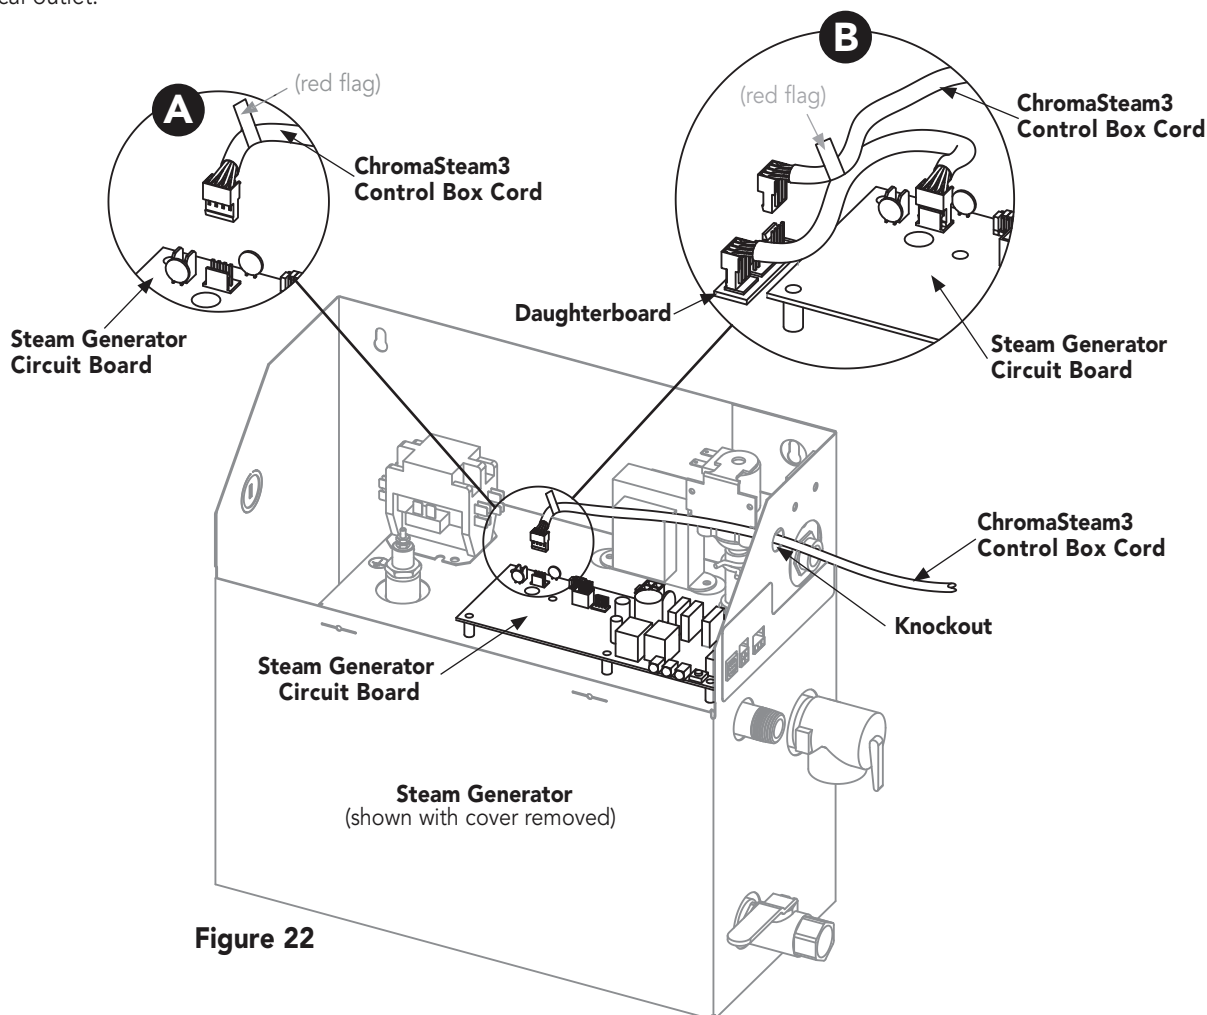

Figure 22
2. Connect the controller cord directly to the steam generator's circuit board (A in Figure 22), OR if an additional accessory is installed in the steam generator, connect the controller cord to the supplied daughterboard (B in Figure 22).